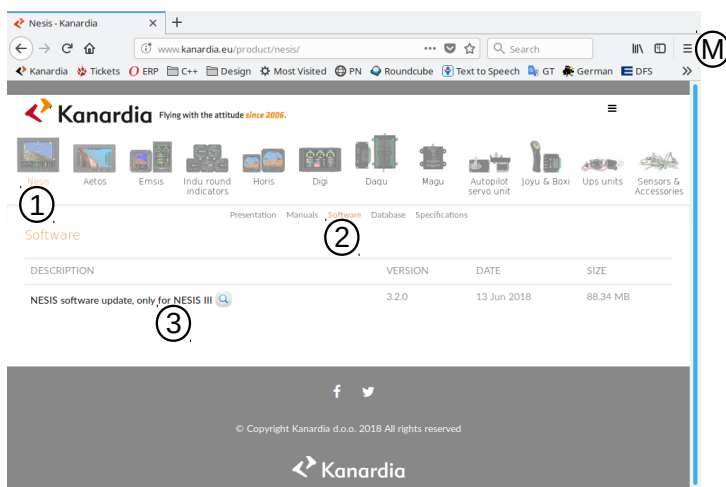

Figure 85: Illustration of the Nesis software download page. Usually only the latest update is available.
- ① Open the home page and select *Nesis* icon on the top. This leads to Nesis specific page.
- ② Select *Software* next. This opens a page with Nesis specific software. An example is shown in Figure 85.
- ③ Click on the link to start download process of selected software file.
1. Click on the \equiv menu symbol. See label (M) in Figure 85.